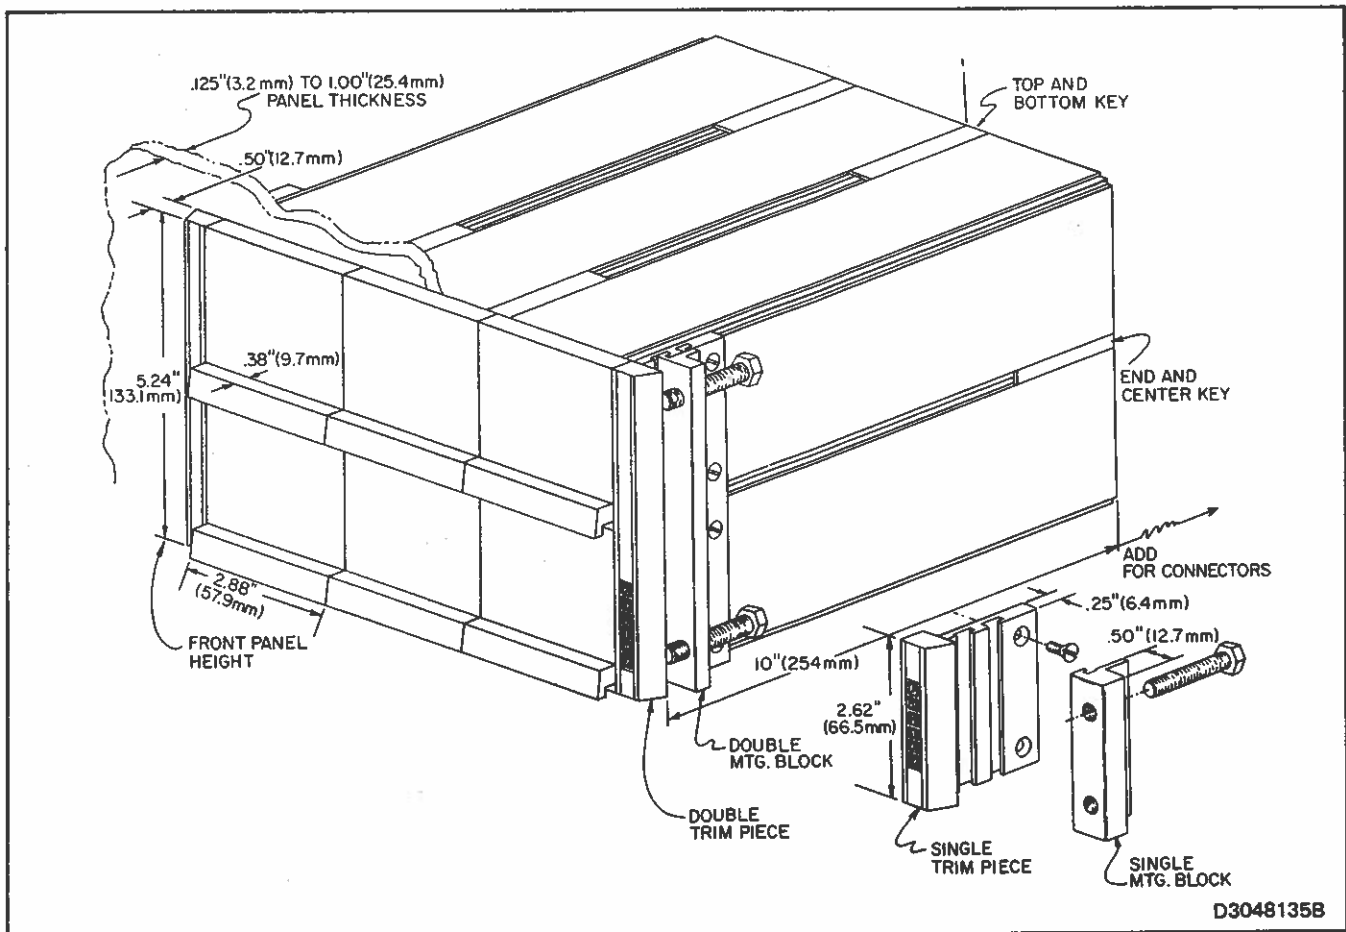

FIGURE 1 – Enclosure Trim and Mounting Hardware
The type TZ Enclosures may be panel mounted either individually or in high-density arrays of up to 100 units. Figures 50 and 51 at the rear of the manual give the Enclosure dimensions, panel cutout sizes and other information necessary for individual and array mounting. Figure 1 shows the use of trim and mounting hardware. Study these drawings carefully before beginning the installation procedures outlined below.
5. Key Enclosures together as illustrated in Figure 1. Drive keys into tracks with soft mallet (top and bottom, front and rear).
7. Mount trim pieces at both ends of Enclosure or Enclosure array (refer to Figure 1).
10. Install connector and cable assembly to rear plate (refer to Figure 1 and Parts Drawing E91-10-8).